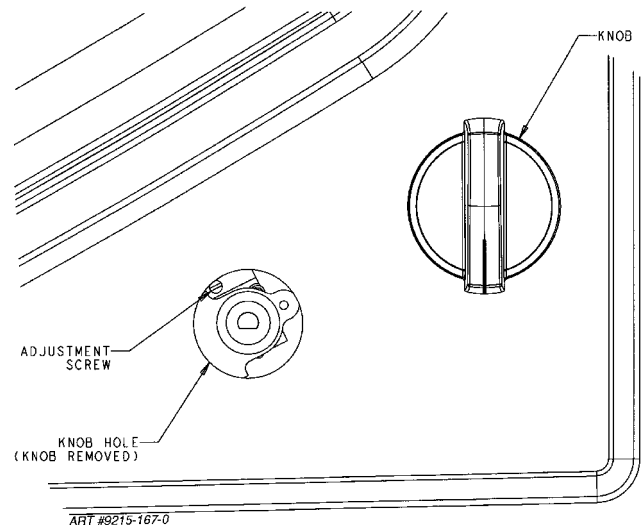

FIGURE 13
**C. LOW FLAME ADJUSTMENT** (See figure 13)
3. Locate the valve adjustment screw. See figure 13.
4. Locate the valve adjustment screw. See figure 13.